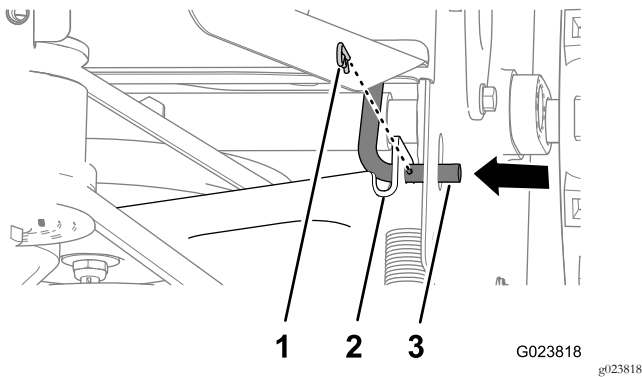

Figure 41
- Remove the hairpin from the traction-control rod (Figure 41).
- Remove traction-control rod from the traction-control bracket by moving the rod inward (Figure 41).
5. Move the traction-control bracket rearward and align the hole in the bracket with the traction-control rod (Figure 41).
6. Slip the rod through the bracket and secure the rod with the hairpin (Figure 41).